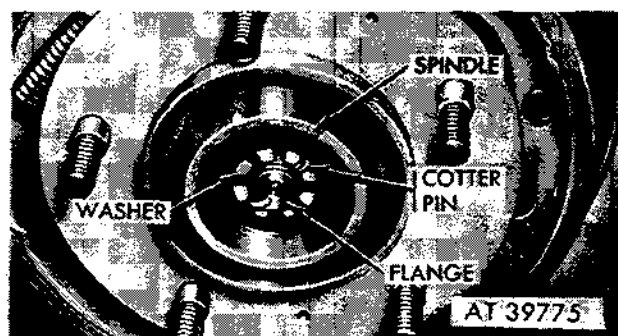

Figure 2-311. Remove spindle from flange.
(4) Remove cotter pin, flanged nut, washer and spindle from flange (fig. 2-311).